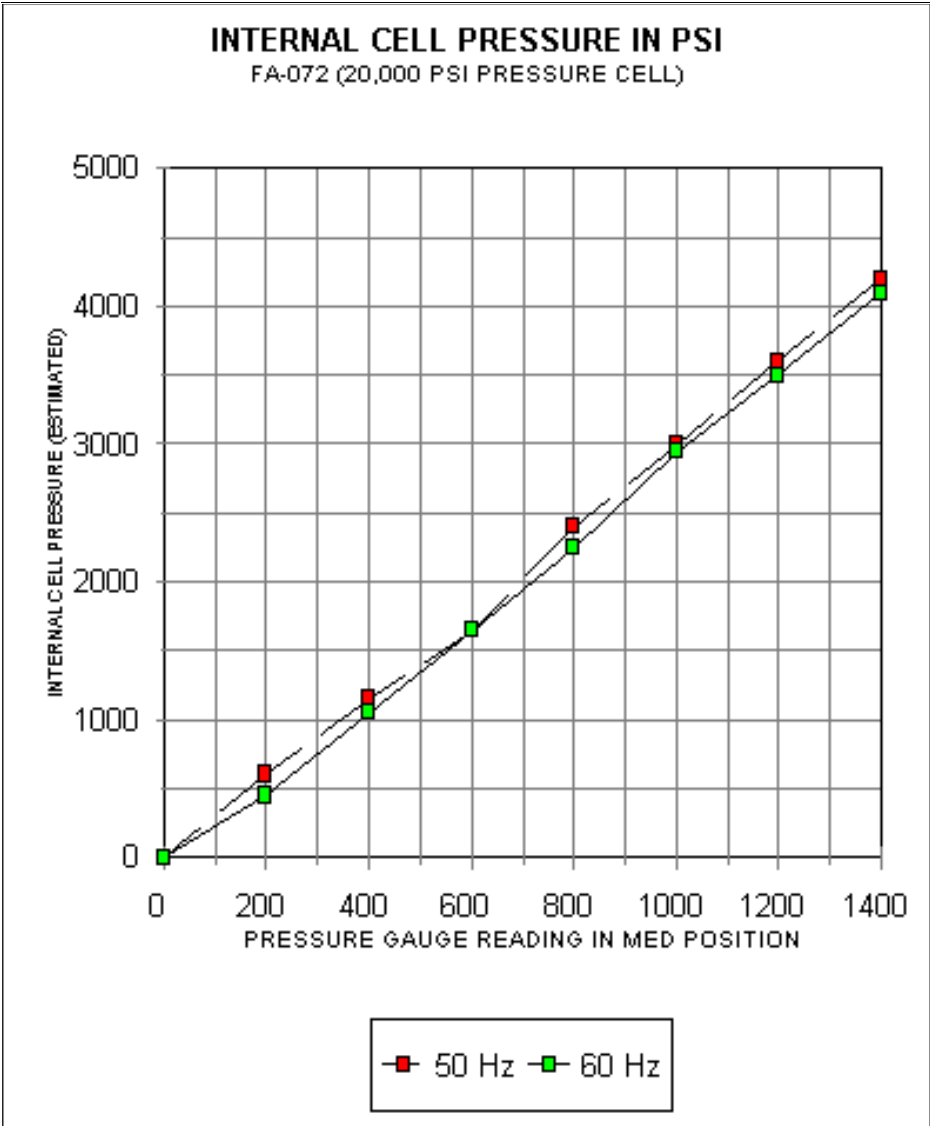

Figure 1-6. Internal Cell Pressure in psi, FA-032 (40,000 psi pressure cell)
For your convenience, the relationship between the gauge pressure and cell pressure is shown graphically in greater detail in Figures 1-6 and 1-7.
1. Using the appropriate graph in Figures 1-6, 1-7, or 1-8, or the table located on the front of the press, determine the gauge pressure required to produce a specific value of working pressure in the cell.